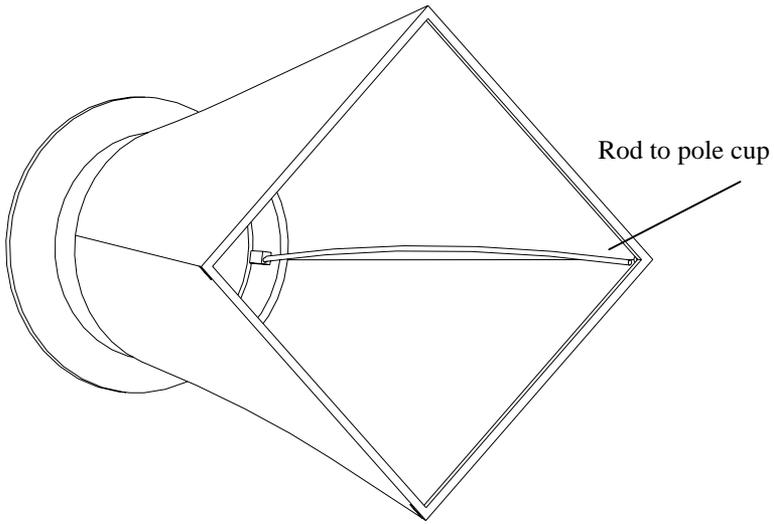

Figure 6: Installing a support pole
- 3 Grasp the support pole. Bend the pole slightly to insert the top end of the pole into the support pole cup located in the corner of the fabric frame as shown in Figure 6.